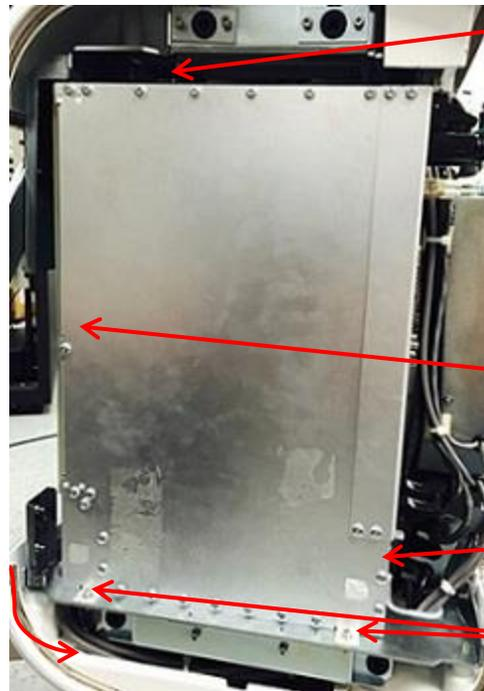

Figure 107: Card Cage
7. Use the long-handled 3 mm hex driver to remove the screw securing the top of the card cage (refer to Figure 107).
8. Use the 3 mm hex driver to remove two screws securing the bottom of the card cage (refer to Figure 107).
3. Use the 3 mm hex driver to tighten two screws securing the bottom of the card cage (refer to Figure 107).
4. Use the long-handled 3 mm hex driver to tighten the screw securing the top of the card cage (refer to Figure 107).